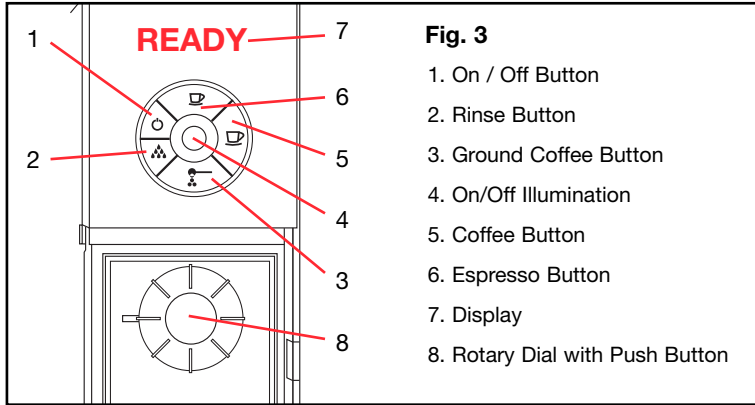

Fig. 3
2. Left Button Cluster and Rotary Dial (See Fig. 3)